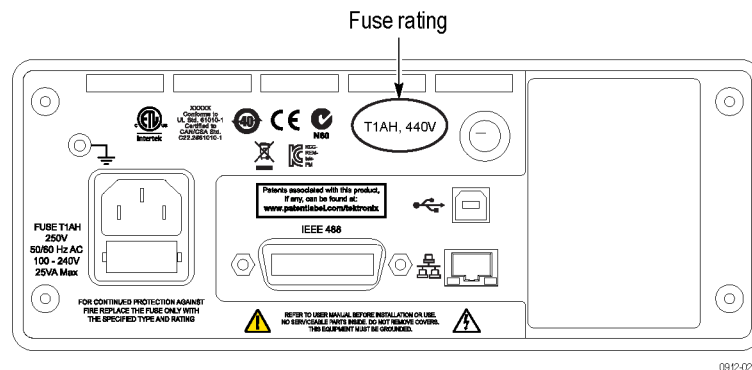

Figure 32: Input fuse rating
**WARNING.** These instructions apply to PA1000 Power Analyzers marked **T1AH, 440V** on the rear panel only. (See Figure 32.) If your PA1000 is marked **F1AH, 600V**, use only a **F1AH, 600 V** fuse. (For example, Schurter part number **A12FA 600V**.)